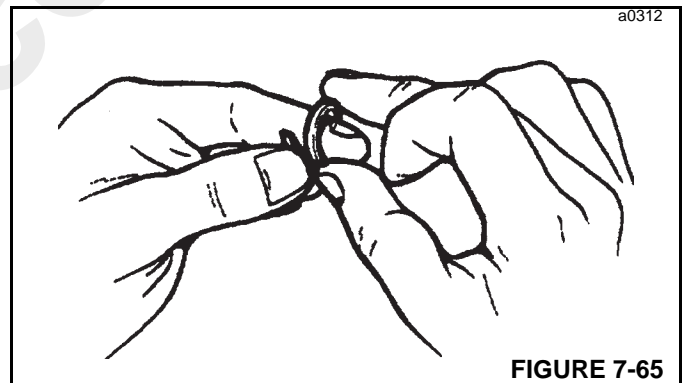

FIGURE 7-65
1. Wind the PTFE piston ring around your finger, as shown in Figure 7-65, so that the seal forms a coil.